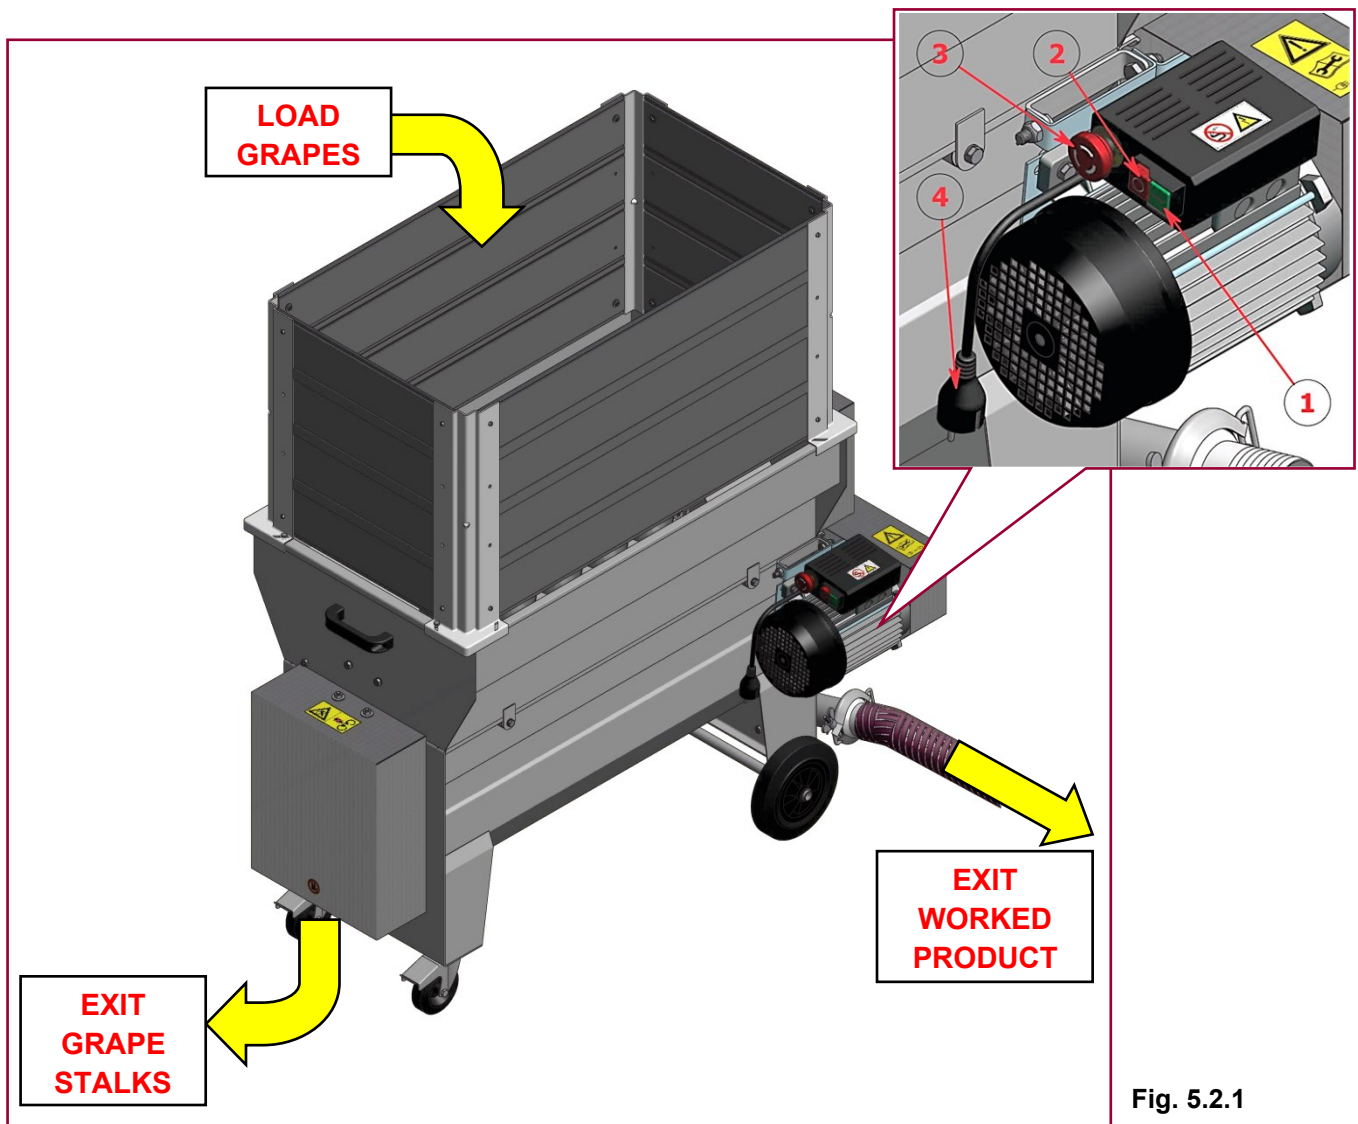

Fig. 5.2.1
To start up the machine, carry out the following operations (see fig. 5.2.1):
- 3) the stems spill into the back part of the machine, and the crushed product into the lower part (see fig. 5.2.1).
- 2) turn off the machine by pressing the stop button n°2 or the emergency button n°3 of fig.5.2.1;
- 3) disconnect the power supply plug n°4 of fig.5.2.1.